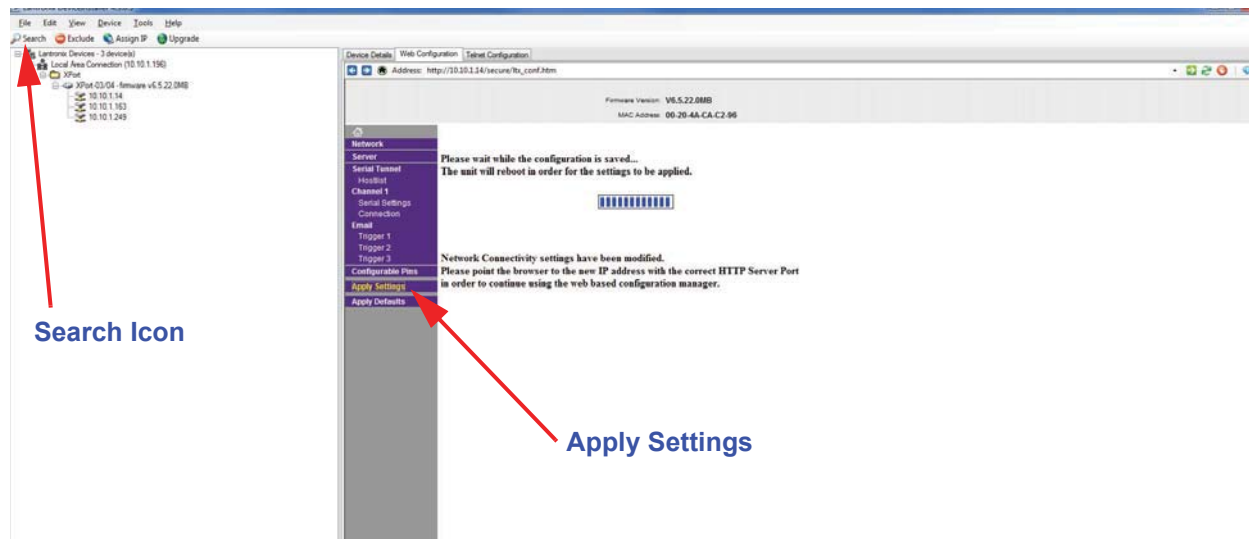

Figure 4-12 Apply Settings
7. Select **Apply Settings** link to save the setting to the RS485 Ethernet Adapter as shown in Figure 4-12.